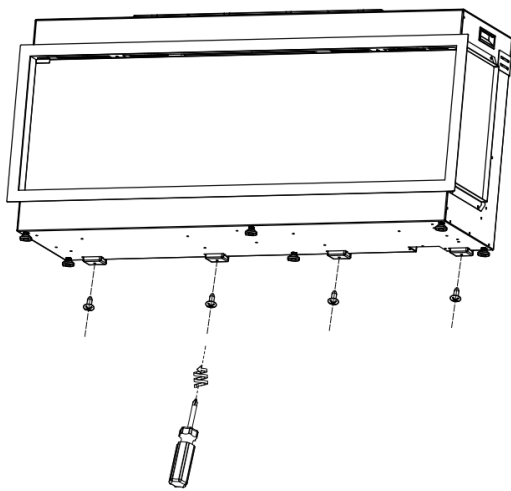

Fig.23
1. Refer to the diagram above to remove the screws at the bottom of the wall mounted bracket. **Fig.23**